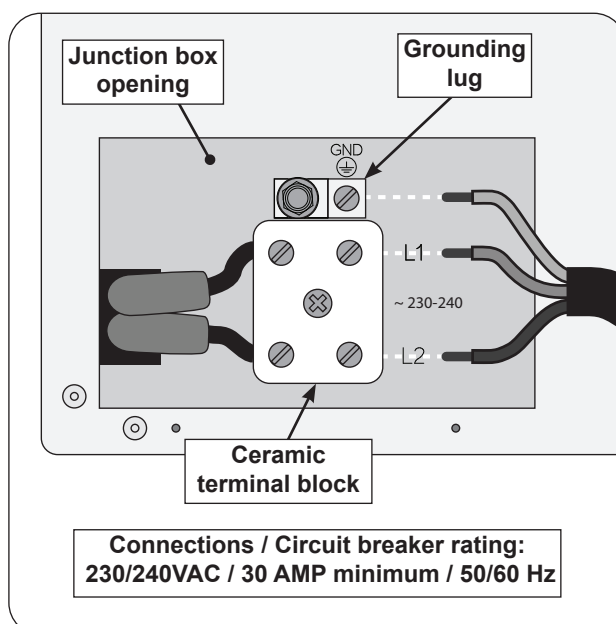

Fig. 26-3 Wire connection diagram
3. Connect the wires to the ceramic terminal block. Reference the wiring information below and Fig. 26-3.